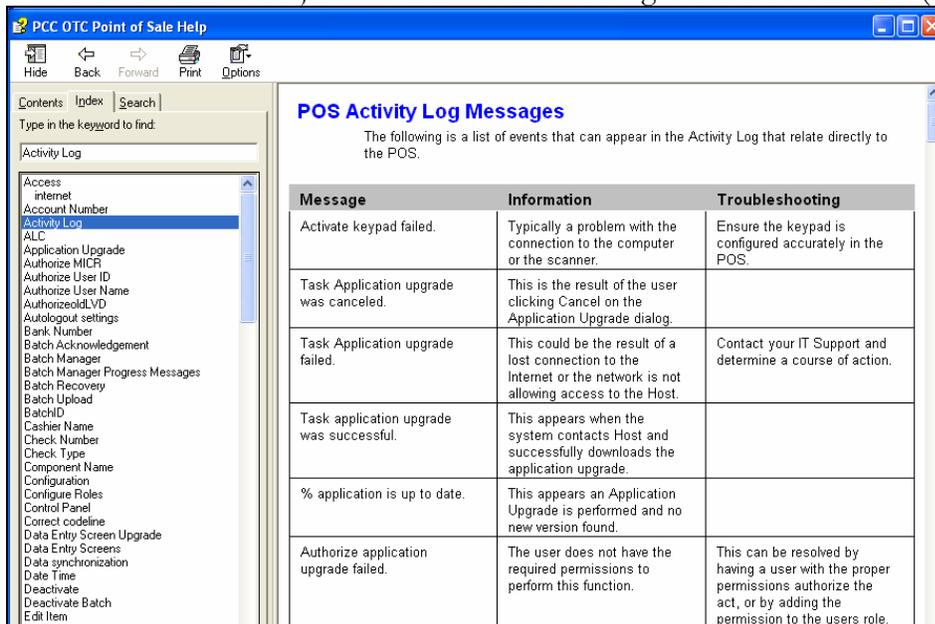

Figure 2.33
- Index – displays the index of items on the left side of the screen. The user can click to highlight an item on the left then click the 'Display' button at the bottom of the window to display the contents of that subject in the window on the right side of the screen. (Figure 2.33)